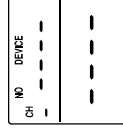

Figure 16
2. Insert battery into the receiver, an icon "NO DEVICE" with "----" will be shown. (Figure 16) If not, remove battery and wait for 2 minutes and then repeat this procedure. If there is already a device learned in one of the channels, you can clear the channel by pressing RESET – CH – RESET.